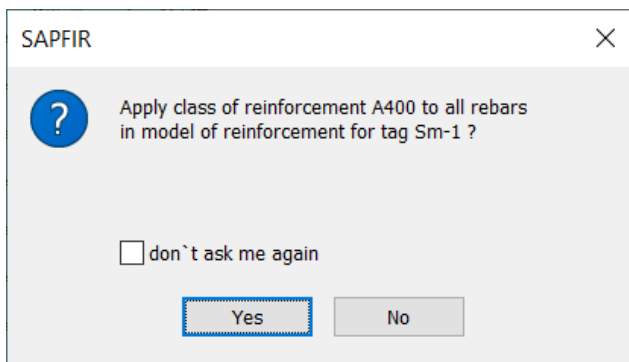

Figure 27.29. SAPFIR message box
- ⇒ In the SAPFIR message box (see Fig. 27.29), select the **do not ask me again** check box and click **OK**.